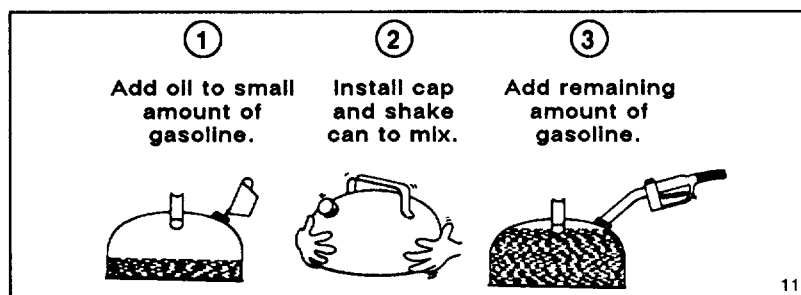

Figure 8
2. Mixing Gasoline and Oil (Fig. 8) – Pour half a gallon of gasoline into an approved gasoline container and add correct amount of two-cycle oil. Reinstall cap on gasoline container and shake the container to mix oil and gas thoroughly. Remove cap and add remaining amount of gasoline.